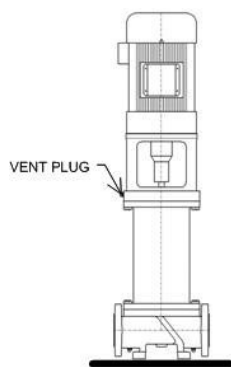

Figure 16: Vent/Drain Plug Locations
2. Remove the vent plug. See Figure 16.